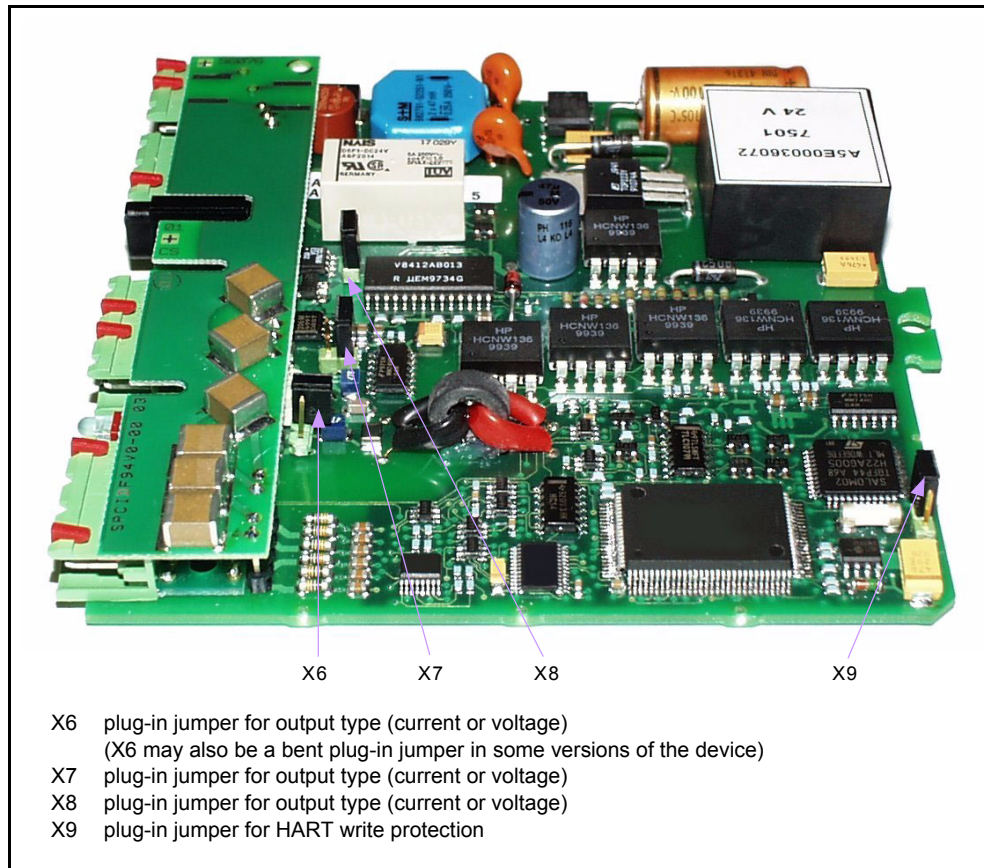

Figure 7 Hardware options of the SITRANS TW, 4-wire mounting rail device
- Set the plug-in jumpers X6, X7, X8 (figure 7, page 93) according to the following table:
Parameterization of the transmitter can be prevented by plugging in the bridge X9 (figure 7, page 93).